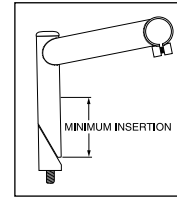

Fig. 1
4. On threaded steerers, insert stem to a minimum depth according to CPSC and JIS standards. The stem must be inserted to a minimum engaging length not less than 2.5 times the stem diameter from the lowest end of the stem, not the wedge. (See Fig. 1).